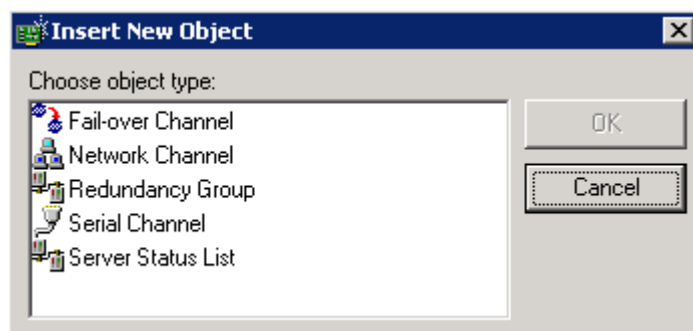

Figure 9 - Insert New Object Window
The **Insert New Object** window (Figure 9) displays a different set of options depending on the type of object selected and the types of objects already configured under it.
- The **Insert New Object** window (Figure 9) appears.
2. The **Insert New Object** window (Figure 9) appears.